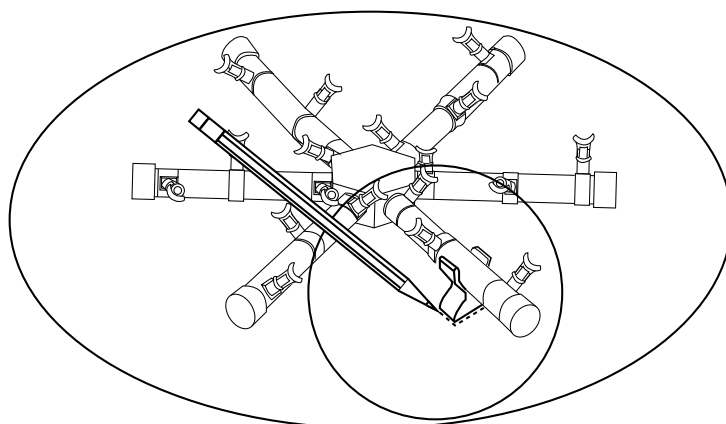

Fig. 8 Tracing burner supports.
Step 3: After the burner supports are installed, set the Pro Spur burner into the burner pan, using the nipple to center the Spur burner inside the pan (Fig. 8). While holding the burner place, use a pencil or marker to trace around each burner support to mark their location. Remove the Pro Spur burner from the pan to reveal the outlined area for each burner support.